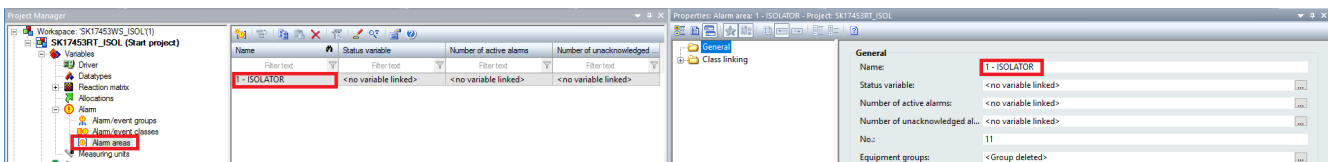

Figure 7.10: Creation of the alarms for each part of the installation
1. **Alarm areas** that will correspond to each part of the installation (i.e. *ISOLATOR*, *AIR-LOCK*, etc.). Fig. 7.10